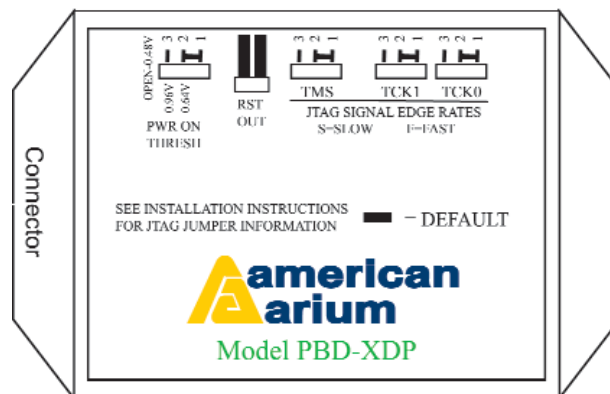

Figure 1
1. Determine if the target has proper end-termination on the signals TMS, TCK1, and TCK0. (See Figure 1 on back.)